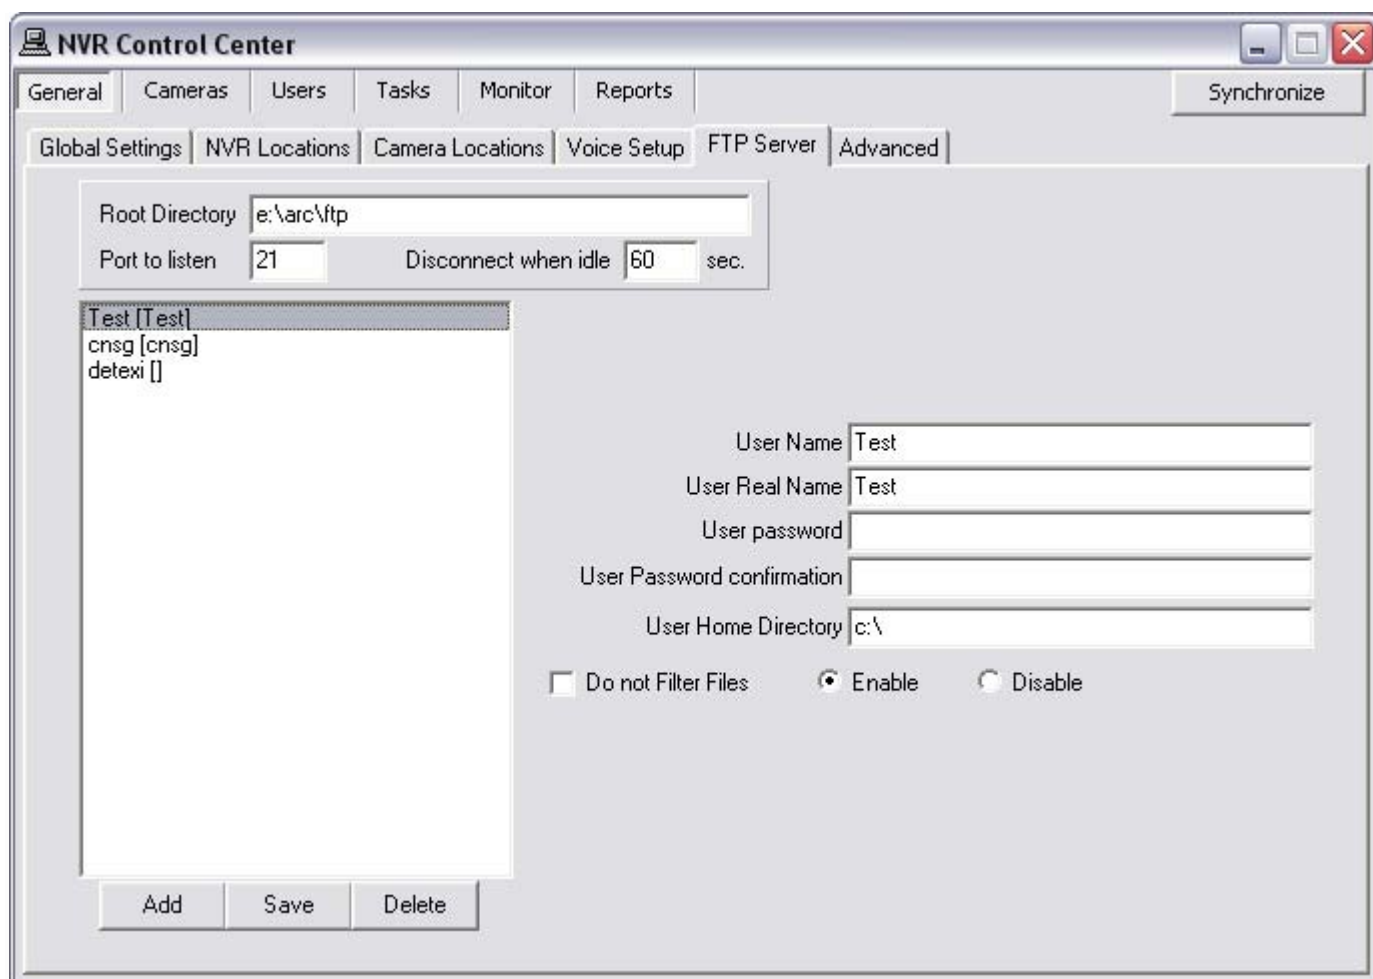

Fig 57. NVR Control Center — General — FTP Server
1. In the **NVR Control Center** go to the **General — FTP Server** (Fig 57).